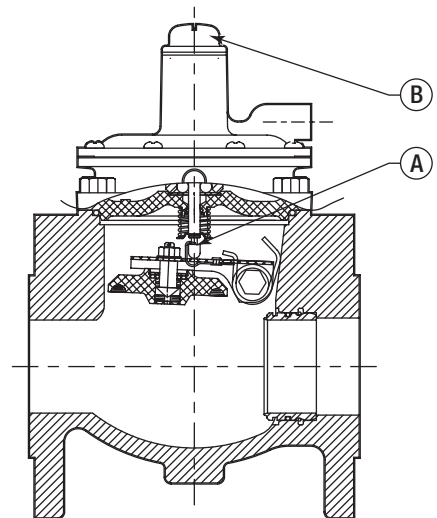

Fig. 2
## Valve Operation See Fig. 2.
1. Push and rotate the reset shaft (1) until you feel it engaging the latching assembly. Further rotation using light pressure allows the automatic equalizing valve to operate.
3. When the slamshut valve is reset, the valve position indicator will move from the window within the cap (See Figure 2, Item b).